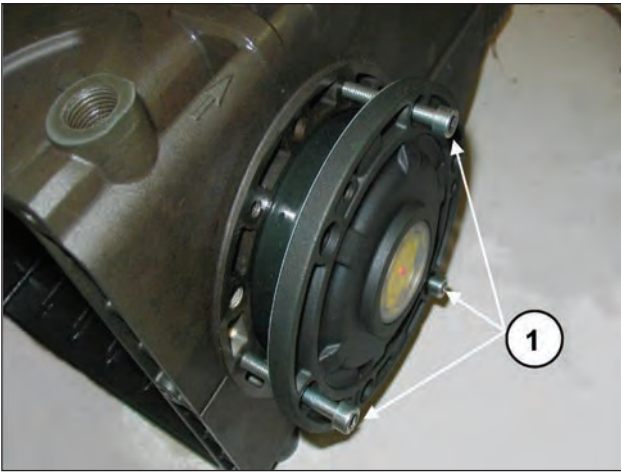

Fig. 8
To facilitate filling of the first section and relative fitting of the covers on the casing, it is recommended to use 3 partially-threaded M6 x 40 screws, (Fig. 8, pos. ①) to then complete the operation with the screws supplied (M6x18).